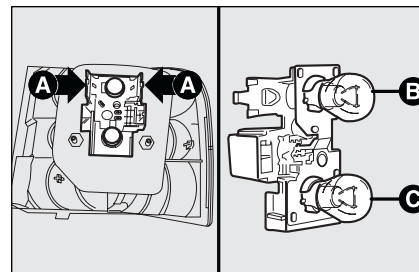

fig. 38
- push the bulb holder side tabs **A**-fig. 38 inwards to remove it;